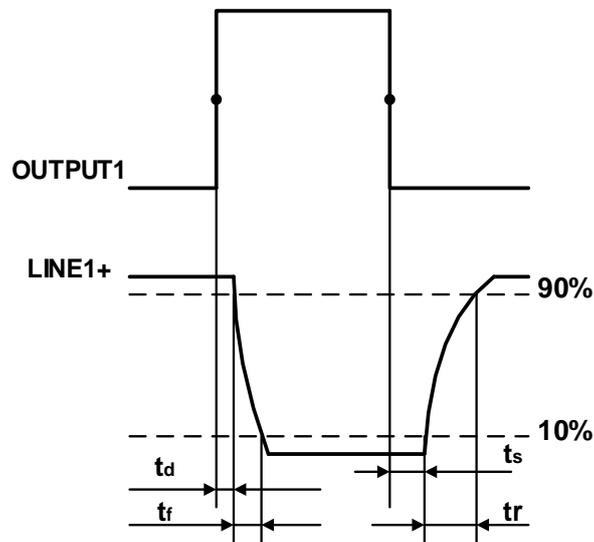

Figure 7-6 Parameter of opto-isolated output circuit
- Rising time delay =  $t_r+t_d$ :  $< 50\mu s$  ( $0^\circ C \sim 45^\circ C$ ) (parameter description is shown in Figure 7-6)
- Falling time delay =  $t_s+t_f$ :  $< 50\mu s$  ( $0^\circ C \sim 45^\circ C$ ) (parameter description is shown in Figure 7-6)
- Rising time delay =  $t_r+t_d$ :  $< 20\mu\text{s}$  ( $0^\circ\text{C} \sim 45^\circ\text{C}$ ) (parameter description as shown in Figure 7-6)
- Falling time delay =  $t_s+t_f$ :  $< 20\mu\text{s}$  ( $0^\circ\text{C} \sim 45^\circ\text{C}$ ) (parameter description as shown in Figure 7-6)